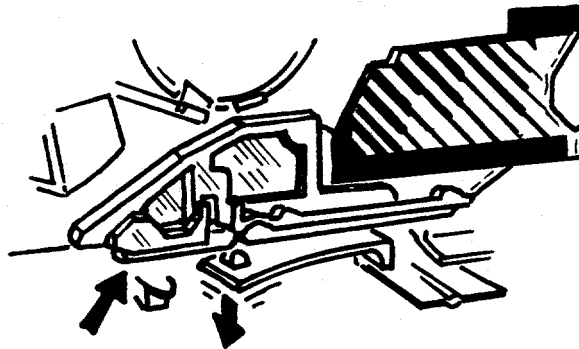

Fig. 36 Replacing Trim Slide
40. Replace the Trim Slide in the Lens Mounting Plate by depressing the tang below it and sliding it into place (see Fig. 36).